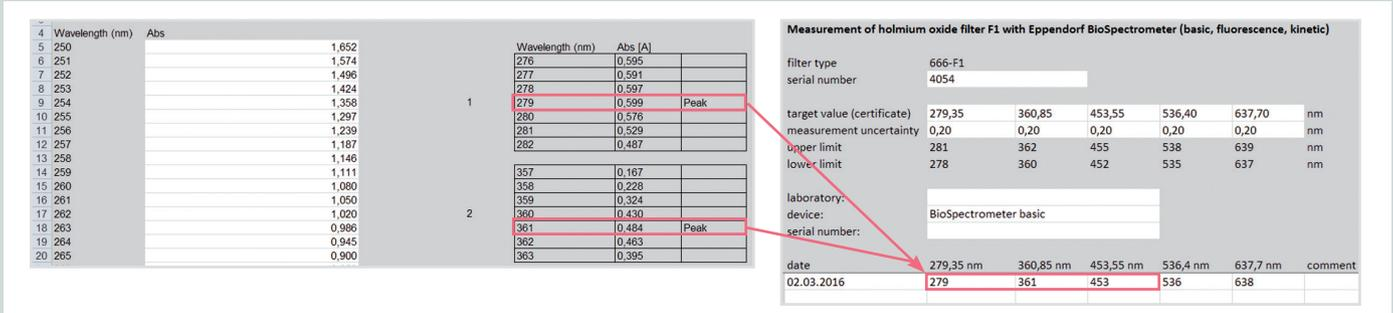

Figure 6: Control chart F1 Excel file: Transfer of peak absorbance values from tab “Evaluate Excel file” to tab “F1 numbers”
Open the Excel file from the Eppendorf BioSpectrometer and the Control Chart. Copy the measured absorbance values 250 – 650 nm (graph data) from the Eppendorf BioSpectrometer file into the column of the tab “evaluate Excel file”. For each of 5 data groups a peak will be indicated automatically (Figure 6).
- d) Wavelengths of the peak maxima (from tab “evaluate Excel file”, Figure 6)